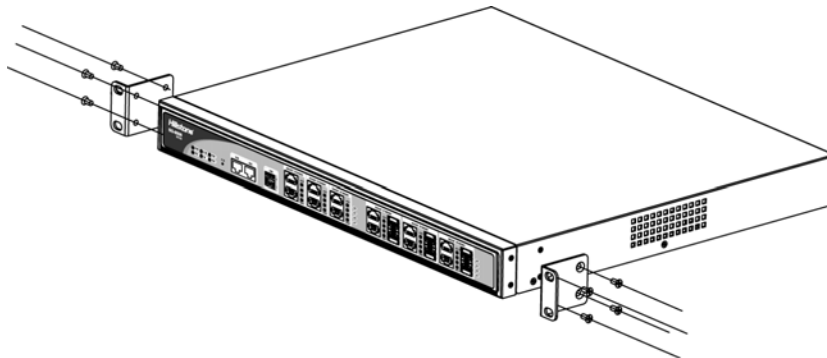

Figure 3-2: Installing the Rack-mounting Ears (1U Chassis as example)
**Step 1:** Attach rack-mounting ears to the left and right side panels of the chassis respectively, and then fasten the rack-mounting ears with suitable screws, as shown in Figure 3-2.